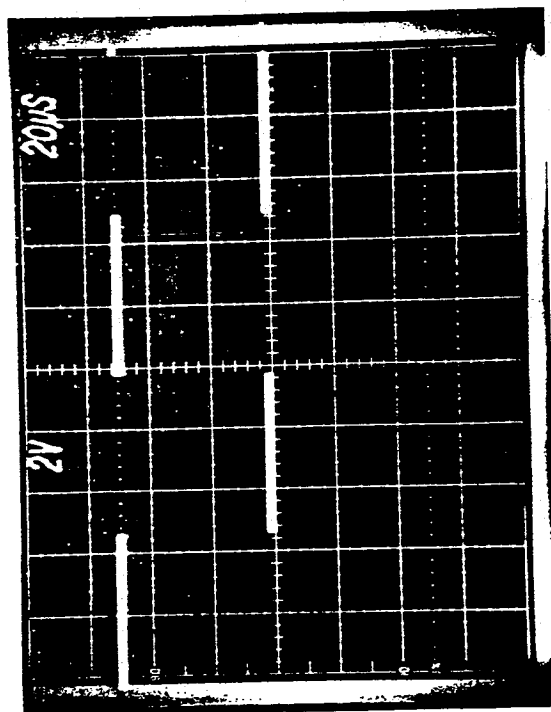

Figure 5-4
6. Check "9600"; it should be approximately as shown in Figure 5-4.